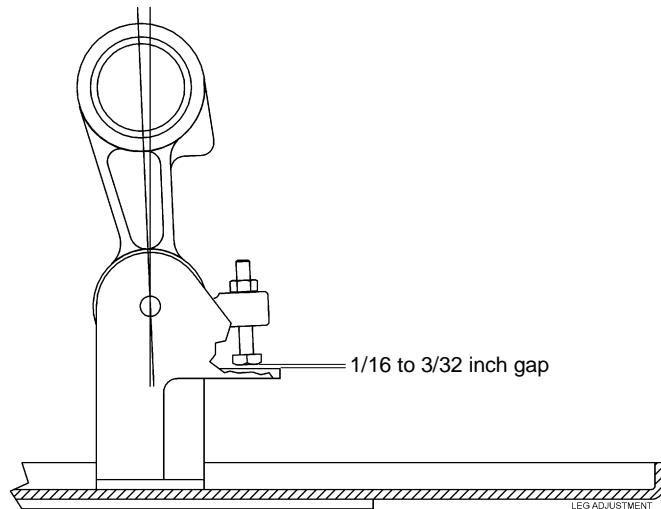

Figure 4.2-10
6. Adjust the Spot Rod so that the head of the Table Leg Screw just begins to lift off of the Table Leg Bracket. There should be a 1/16 to 3/32-inch gap (see Figure 4.2-10).